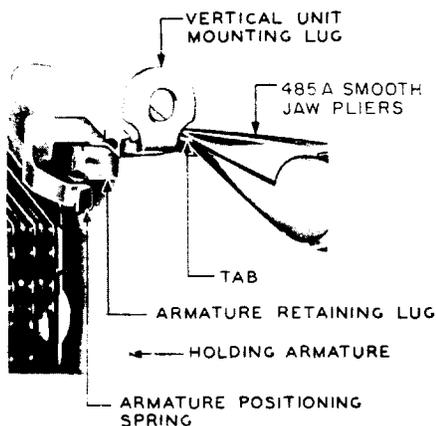

Fig. 9 – Method of Removing Armature Positioning Spring
(1) To remove the armature positioning spring, grasp the tab which is to the right of the vertical unit mounting lug with the smooth-jaw pliers as shown in Fig. 9. Then